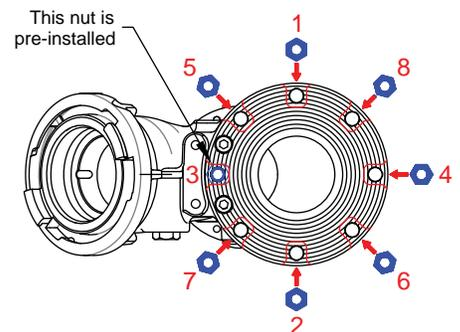

Figure 4.2.2: Installation using 4" ANSI 150 Inlet Adapter
When Side A option F is specified, the 4" ANSI 150 Flange Inlet Adapter is pre-installed on side A of the Booster. Eight 5/8-11 x 3" bolts, thick washers, and nuts are supplied. One of the nuts and an o-ring seal are pre-installed between the Inlet Adapter and Booster body. To install the Booster on a 4" ANSI 150 flange, refer to figure 4.2.2 and the instructions below.
2. Slide (7) 5/8-11 nuts into the notches on the outside of the Flange Adapter. Washers are not necessary under these nuts. The close fit achieved by the notches and hole diameters results in sufficient load bearing area without washers.
3. Slide thick washers over 5/8-11 x 3" bolts. Slide (8) bolts through flanges and tighten into nuts until snug against mating flange. To prevent damage, verify that no bolt ends are close to contacting the Booster body. If they are close, then stack additional thick washers under the bolt heads or substitute studs with nuts. Stainless steel hardware is recommended.
4. Tighten (8) bolts or studs to 76-80 ft-lb (100-110 Newton-Meters) torque in the alternating sequence shown in figure 4.2.2. Tighten at graduated intervals of 30%, then 60%, and finally 100% of the specified torque.